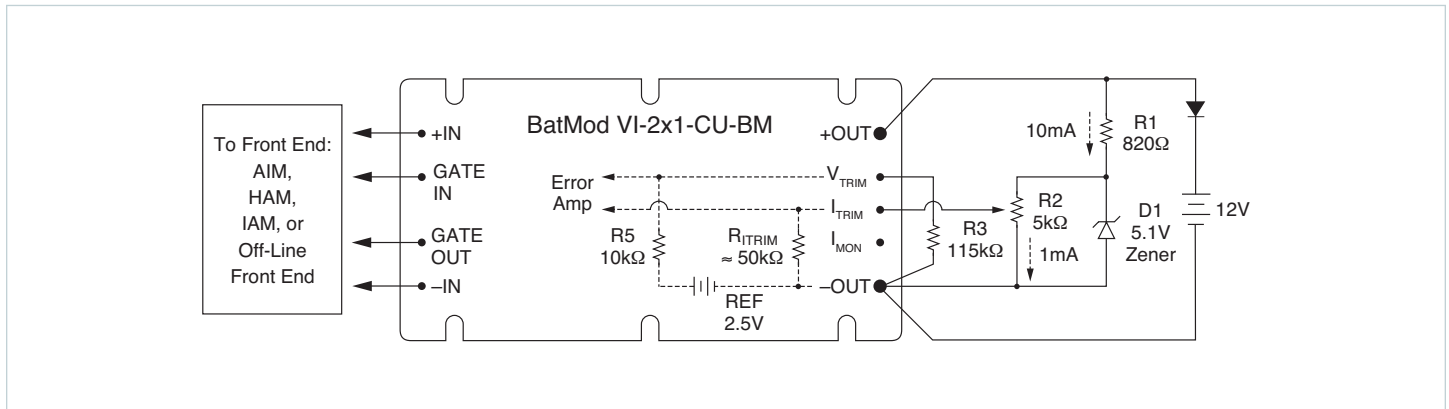

Figure 11.3 — Basic charging circuit using a current source module (BatMod)
**Basic Battery Charger:** Figure 11.3, shows a basic charging circuit with a BatMod for the following system requirements:
In Figure 11.3 the configuration will charge the battery at a maximum of 10A with a 13.8V float voltage. Other charge rates and float voltages may be similarly calculated. If a fixed-charge current is desired, the potentiometer can be replaced with two fixed resistors. In applications requiring tight control over the charging current, D1 can be replaced with a precision reference.